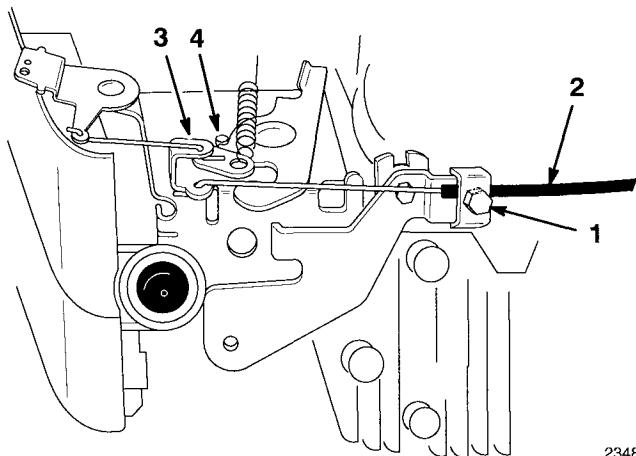

Figure 32
2. Screw (2)
3. Loosen cable clamp screw until throttle cable slides (Fig. 32).
5. Move throttle cable until throttle lever contacts stop (Fig. 32).
7. Reinstall engine cover with (2) screws. Torque screws to 8-10 in.-lbs. (.9-1.1 N·m)